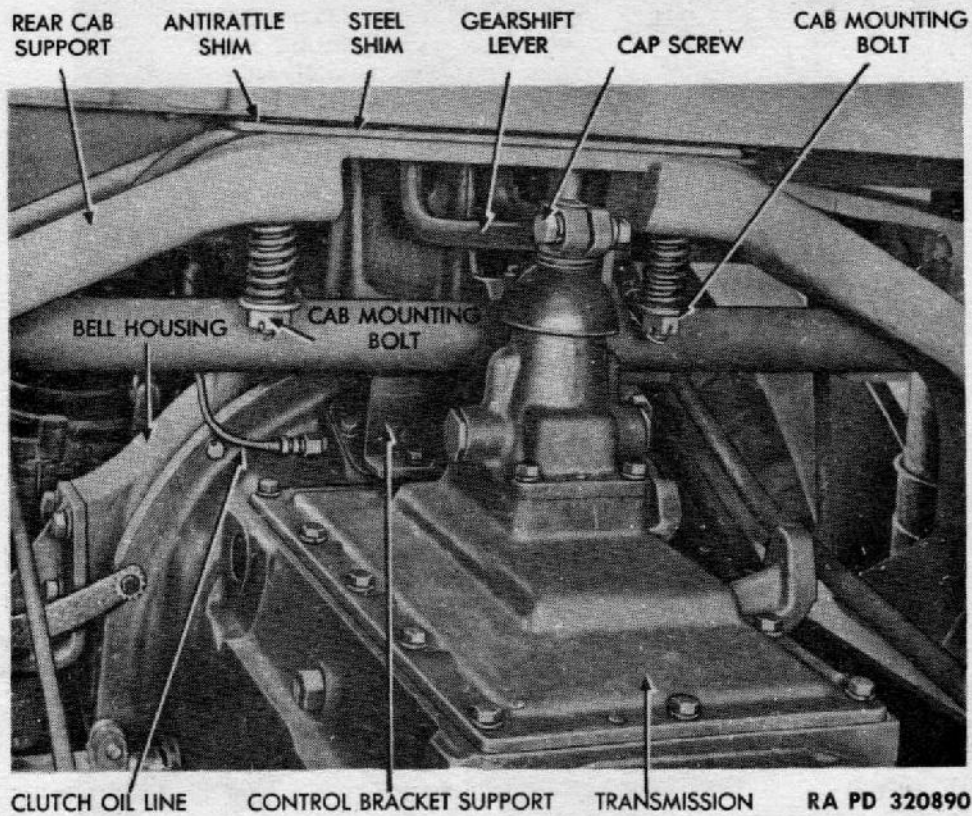

Figure 88 — Transmission Installed — Upper Rear View
h. Remove Exhaust Pipe (par. 72 b (1)).
i. Remove Clutch Oil Line (fig. 88). Disconnect clutch oil line from transmission by screwing out brass union.
j. Remove Gearshift Lever (fig. 88). Remove nut, lock washer, and cap screw at bottom end of gearshift lever. Lift off gearshift lever.
l. Disconnect Control Bracket Support (figs. 88 and 81). Remove four cap screws and lock washers securing control bracket to control bracket support, and two cap screws, lock washers, and spacers, securing control bracket support to transmission. Leave two front cap screws in place. Disconnect rear end of carburetor control rod and accelerator control rod by removing cotter pins. Raise the control bracket, and work the control bracket support to the left side of the transmission (fig. 81).
b. **Install Control Bracket Support** (fig. 88). Position control bracket support under control bracket. Install two cap screws, lock washers, and spacers which secure control bracket support to transmission. Install four cap screws and lock washers which secure control bracket to control bracket support and to transmission. Attach rear end of carburetor control rod and accelerator control rod to carburetor control rod lever and accelerator cross shaft lever.
d. **Install Gearshift Lever** (fig. 88). Tap gearshift lever on stub. Tighten bolt and nut which secure lever to lever stub.
e. **Connect Clutch Oil Line** (fig. 88). Position tube to transmission, and screw on union which secures tube to transmission.
f. **Install Exhaust Pipe** (par. 72 c (3)).
(1) Place rollers under ponton body, and roll it into position on frame side rails. Body must be moved to right to provide clearance past the body locating plate which is bolted to the left-hand frame rail.